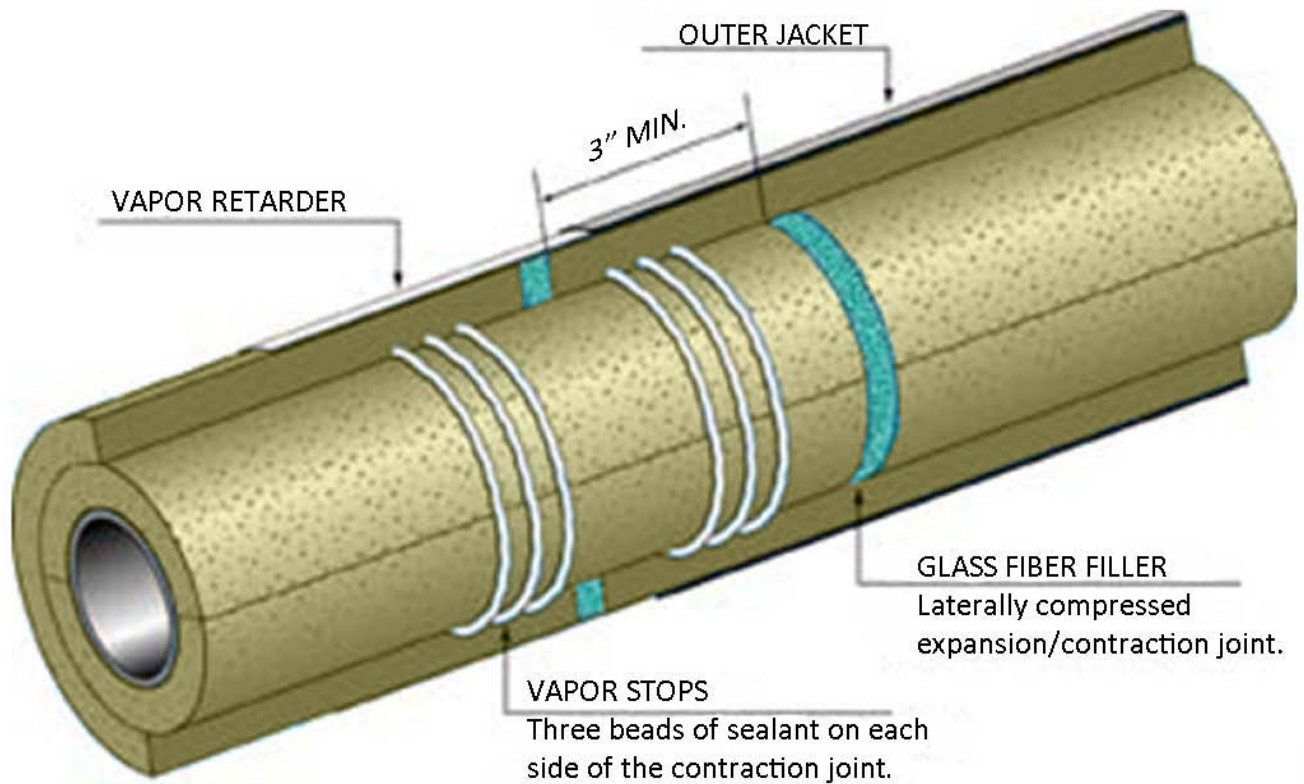

Figure 5
- 4.1.13 Contraction/expansion joints shall be installed as described in section 3.5 and illustrated in Figure 5 in Appendix B or